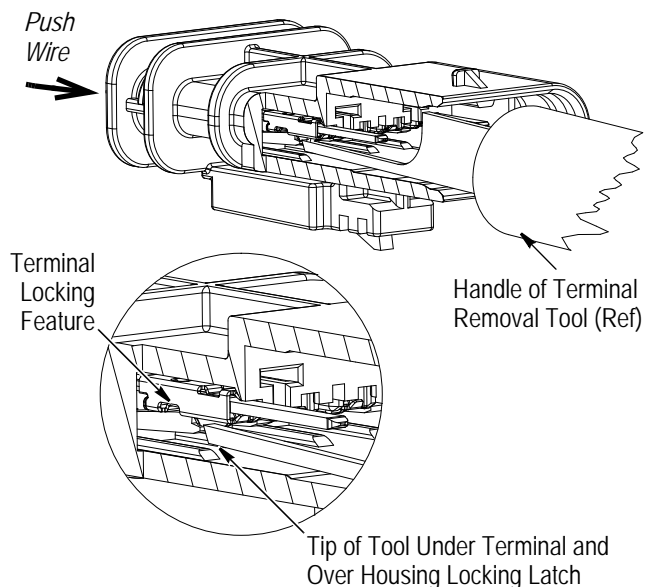

Figure 6
1. Insert the tip of Delphi Tool 15313892 into the mating face of the connector, and hook it onto the back of the release window of the TPA. See Figure 6, Detail A. Then, pull the TPA straight out of the connector. Care must be taken to retain the TPA and observe the orientation of the TPA for re-insertion.
2. Insert the tip of Delphi Removal Tool 12152110 or 12094429 (or equivalent) into the release window of the terminal to be removed so that it slides under the terminal and over the housing locking latch. Then, simultaneously push the wire of the terminal to be removed and gently pry the housing locking latch away from the terminal locking feature (this will release the terminal). See Figure 6, Detail B.